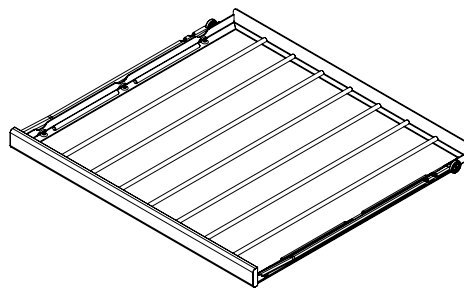

Figure 37
(2) pull-out wire wine shelf. (See Figure 37).